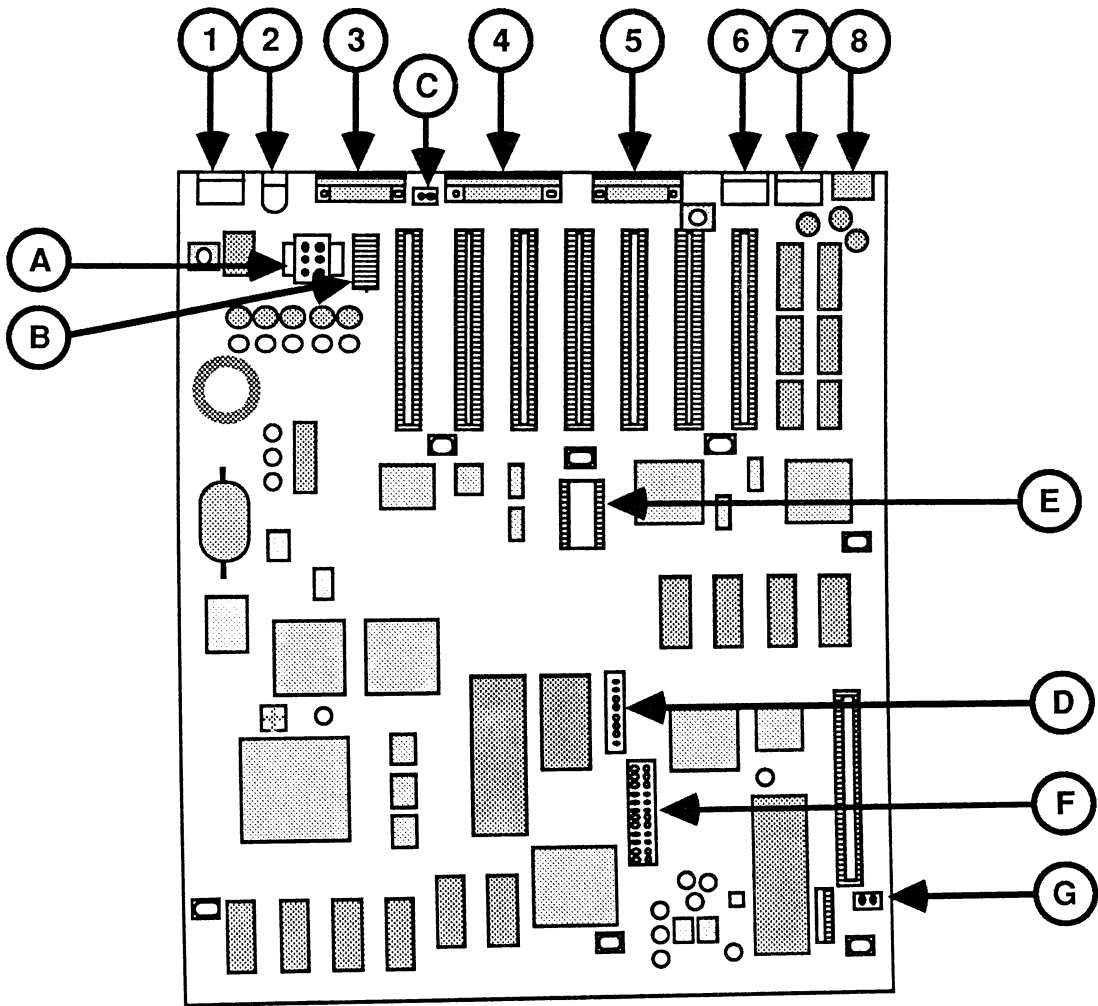

FIGURE 1
- 6.3 Main Assembly (Figure 1)
The back panel of the Apple IIGS has eight ports, which are listed below. The number beside the port name below corresponds to the numbered arrow in Figure 1.
There are seven connectors on the Apple IIGS logic board. Some of these connectors can only be found on an Apple Service exchange module or a retrofit board. In the list below, the letter beside the connector name corresponds to the lettered arrow in Figure 1.